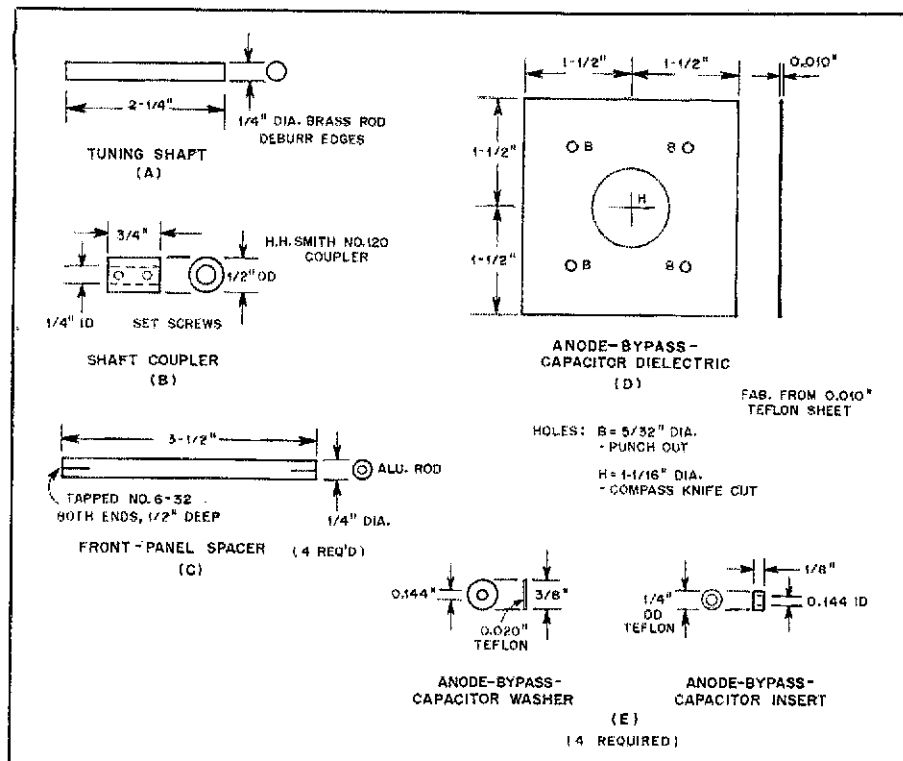

Fig. 12 — Miscellaneous parts necessary to complete the amplifier.
Fig. 12 shows the remaining parts. The tuning shaft (A) is made from a piece of 1/4-inch brass rod. A coupler (B) to connect the tuning shaft to the anode tuner may be